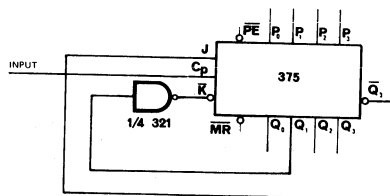
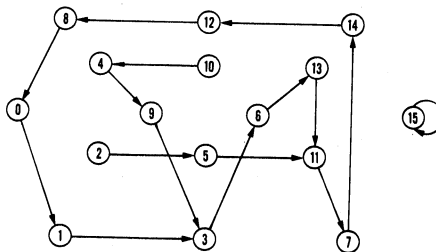
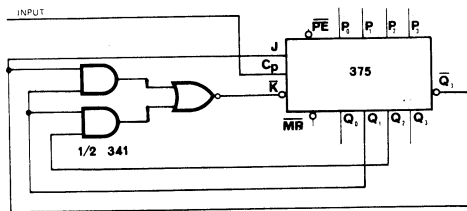

Fig. 17. Complete mod-10 counter.
Fig. 18. State diagram of mod-10 counter.
Fig. 19. Mod-10 counter with one loop and no persistent states.
When all the squares have been filled in using this method, the circuit can be implemented. It can be seen that, ignoring shaded boxes and "don't care" states, the J map can be implemented by simply tying the  $\overline{D}$  (or  $\overline{Q_3}$ ) output back to the J input. The K input is a little more involved and requires the use of a gate. The actual circuit is shown in Fig. 17.
One drawback of the approach just used is that if the shift-register should somehow find itself in one of those shaded squares, it might not get back onto a mod-10 count, but may just count around another loop of different length. To guard against this occurrence it is good practice to work out all of the other loops and add feedback circuits so that each secondary loop feeds back to the prime one. This insures that after a few clock pulses the 375 will be back on the mod-10 loop. Actually the feedback circuits used in Fig. 17 take care of all but one loop. The complete state diagram in Fig. 18 shows that, even if the register is loaded with ⑩ it will move through ④ and ⑨ to ③ where it rejoins the primary loop. Once on the primary loop it will not get off unless it is forced by external circuits.
The only loop not covered by the feedback circuit of Fig. 17 is the one revolving around the 15 state. Actually, this is called a persistent state since once the register contains 1111 it will remain in this condition. The feedback circuit shown will not break the device out of the persistent “one’s” state. In Figs. 19 and 21 are two methods for removing the persistent “ones”.